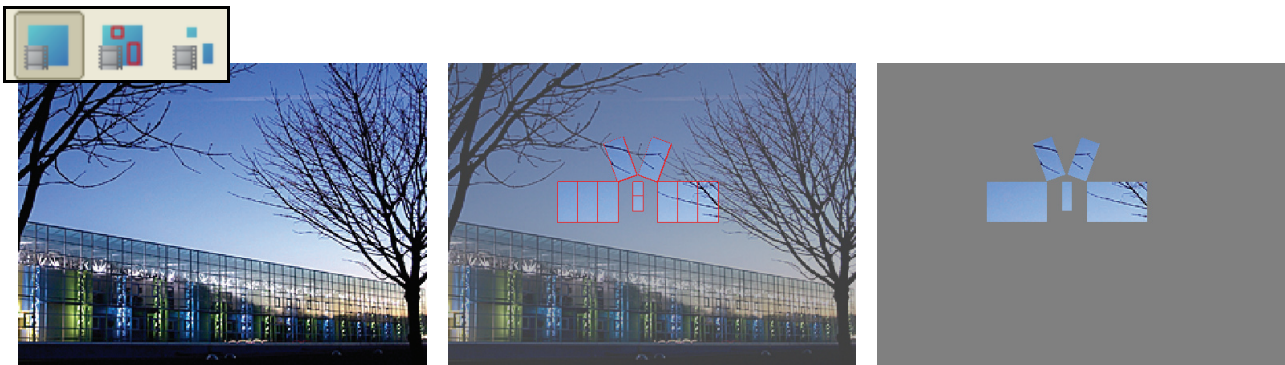

Figure 29: Video view mode options
4. See Figure 29. Use the **View** buttons to choose whether you want to see the whole video image, the image with panels overlaid, or only the part of the image displayed on your panels.